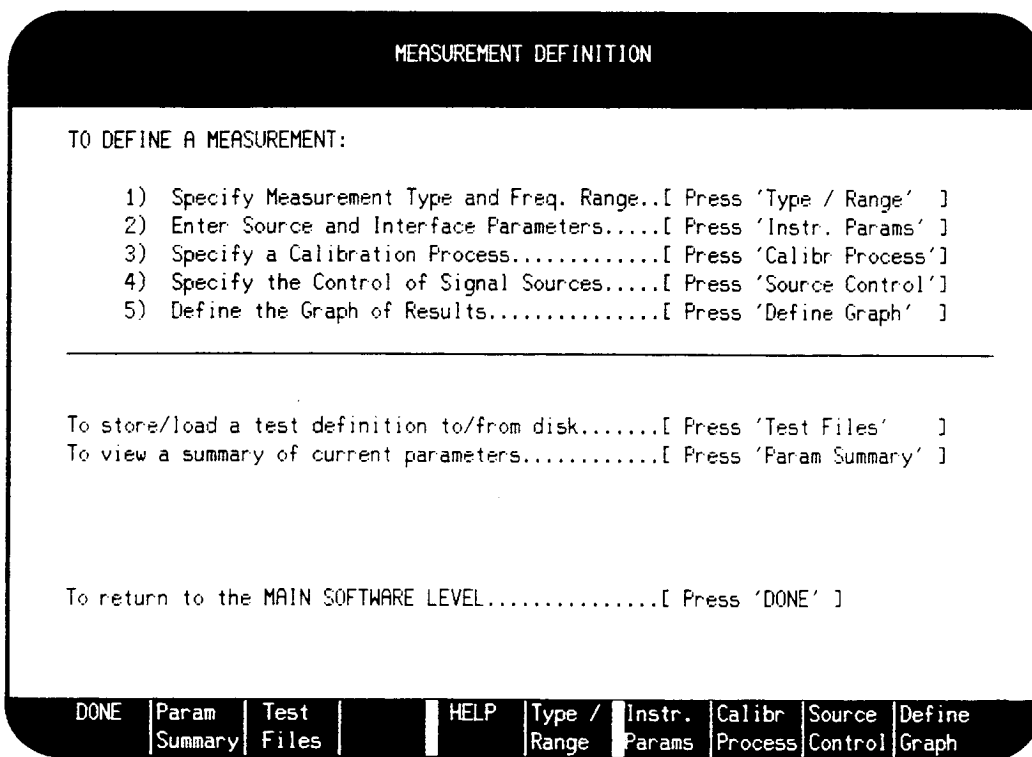

Figure 8-7. Measurement Definition Menu
- 5. On the HP 3048A press the **Define Msrmt** softkey to obtain the Measurement Definition menu. Refer to figure 8-7.